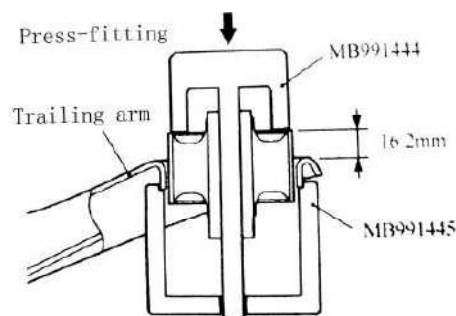

Fig.14B-17
(3)Using the special tool, press the trailing arm bushing into the position shown.(Fig.14B-17)